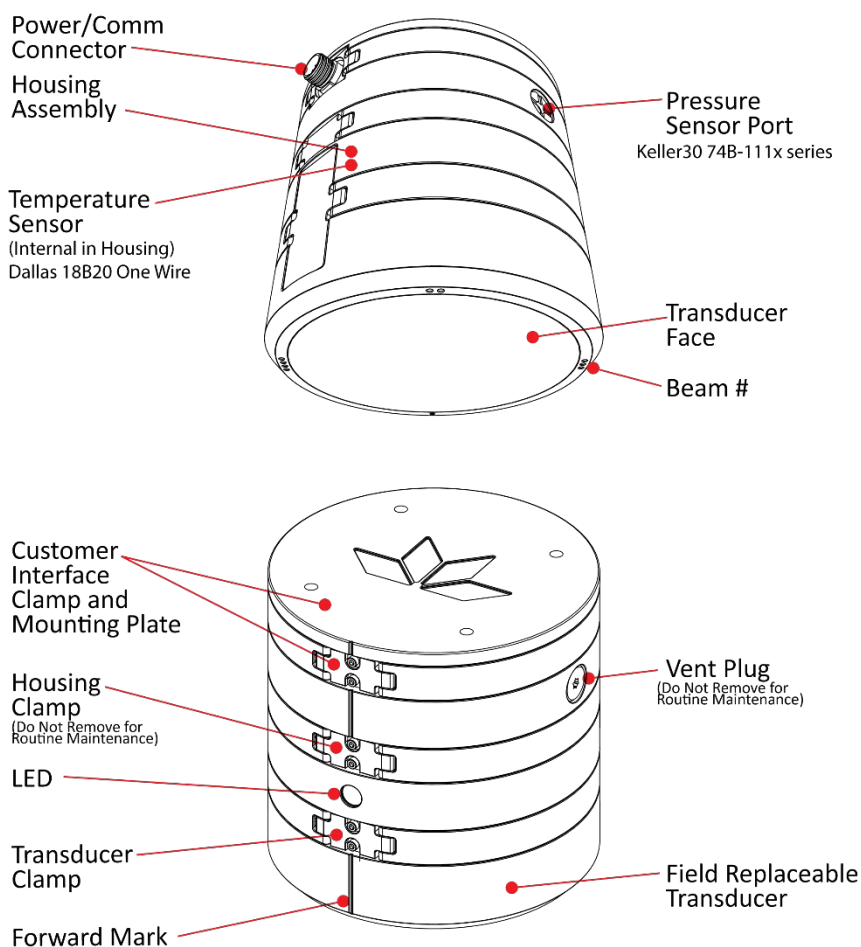

Figure 1. Tasman Overview
- Updated Figure 1 temperature sensor location.